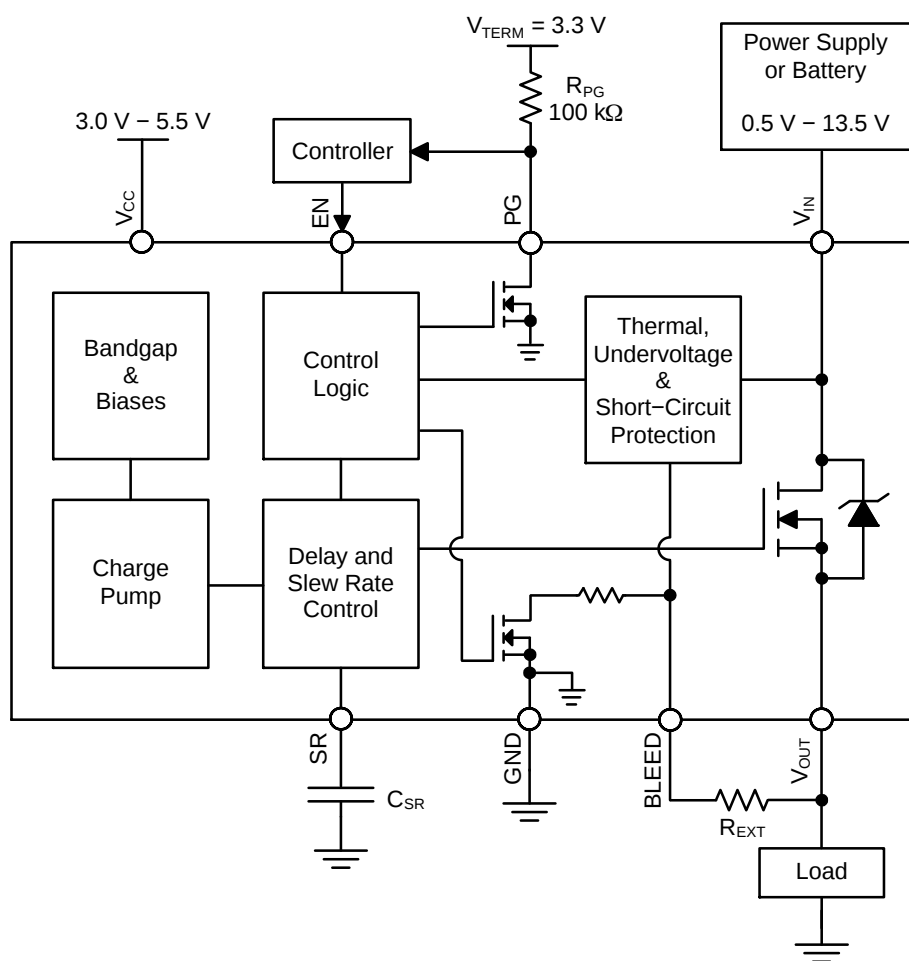
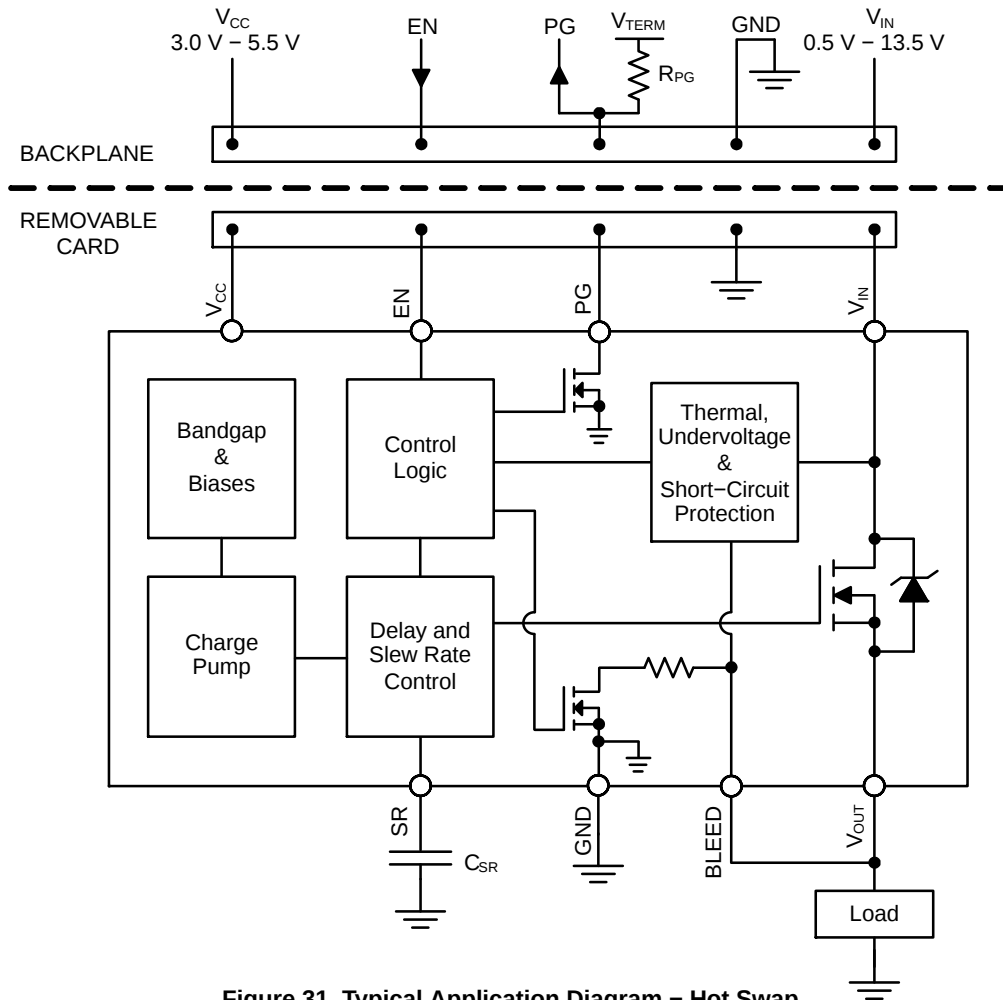

Figure 30. Typical Application Diagram – Load Switch
Figure 31. Typical Application Diagram – Hot Swap
It is required that the BLEED pin be connected to V_{OUT} either directly (as shown in Figure 31) or through an external resistor, R_{EXT} (as shown in Figure 30). R_{EXT} should not exceed 1 k Ω and can be used to increase the total bleed resistance.
The NCP45540 devices have a power good output (PG) that can be used to indicate when the gate of the MOSFET is fully charged. The PG pin is an active-high, open-drain output that requires an external pull up resistor, R_{PG} , greater than or equal to 1 k Ω to an external voltage source, V_{TERM} , compatible with input levels of other devices connected to this pin (as shown in Figures 30 and 31).
The slew rate can be decreased with an external capacitor added between the SR pin and ground (as shown in Figures 30 and 31). With an external capacitor present, the slew rate can be determined by the following equation:
Once active, the circuitry monitors the difference in the voltage on the V_{IN} pin and the voltage on the BLEED pin. In order for the V_{OUT} voltage to be monitored through the BLEED pin, it is required that the BLEED pin be connected to V_{OUT} either directly (as shown in Figure 31) or through a resistor, R_{EXT} (as shown in Figure 30), which should not exceed 1 k Ω . With the BLEED pin connected to V_{OUT} , the short-circuit protection is able to monitor the voltage drop across the MOSFET.